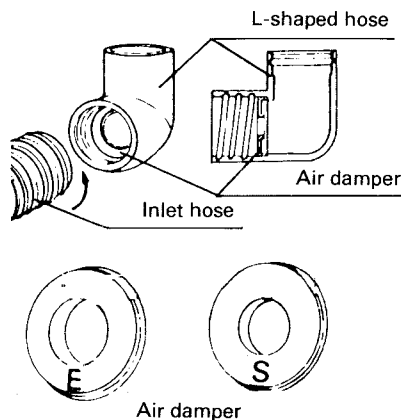

Fig. 11
7. Attach the type "S" air damper to the L-shaped hose (See Fig. 11).